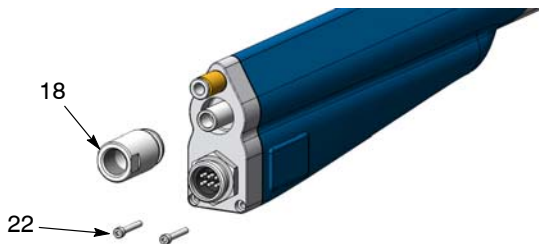
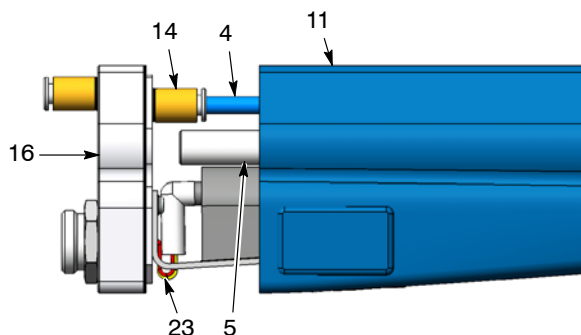

Figure 37 Removing Heat Sink Screws and Lock Nut
Figure 38 Pulling Heat Sink away from Housing
5. See Figure 37. Remove the two screws (22) with a 2.5 mm hex wrench, then unscrew the lock nut (18) from the powder tube.
6. See Figure 38. Pull the heat sink (16) away from the housing (11) and disconnect the air tubing (4) from the connector (14).
8. See Figure 38. Connect the air tubing (4) to the internal connector (14).
9. Push the heat sink (16) back up against the housing while guiding the powder tube (5) through the heat sink. Make sure the harness wires (23) are not pinched between the housing and the heat sink.
10. See Figure 37. Screw the lock nut (18) onto the powder tube and tighten it securely. Do not overtighten it or you may damage the plastic threads on the powder tube.
11. Install the two socket-head screws (22) in the heat sink and tighten them securely.